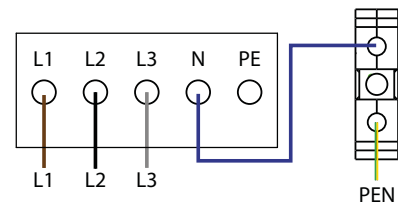

Figure 13: 4-core connection
2. Connect the cables in accordance with the label on the PCB terminals (Figure 13 on page 20).